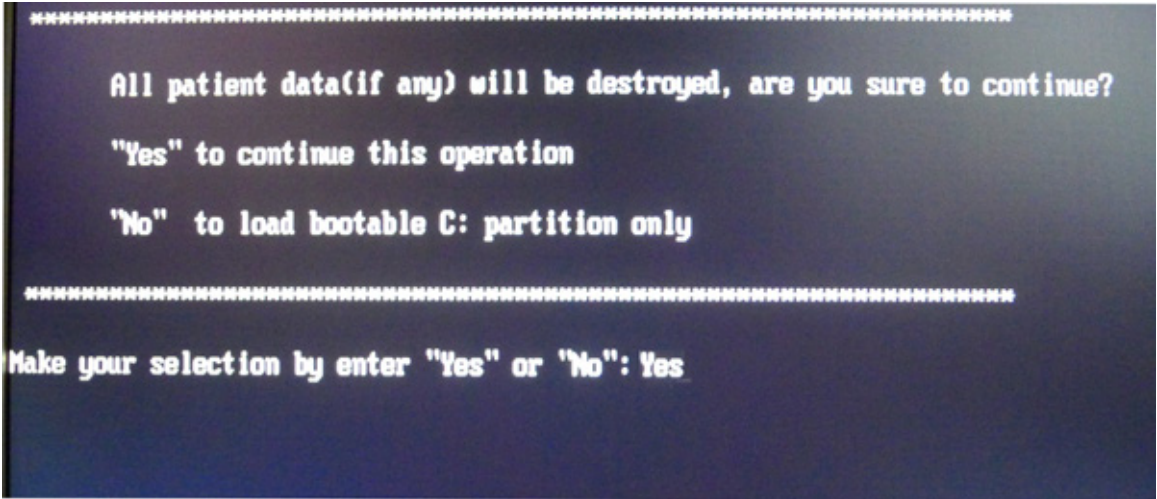

Figure 3-33 Upgrading selection
10.)When the message displays as shown in Figure 3-33 on page 3-36 , input “Yes“ and press on “Enter“ key on the keyboard to continue the steps.